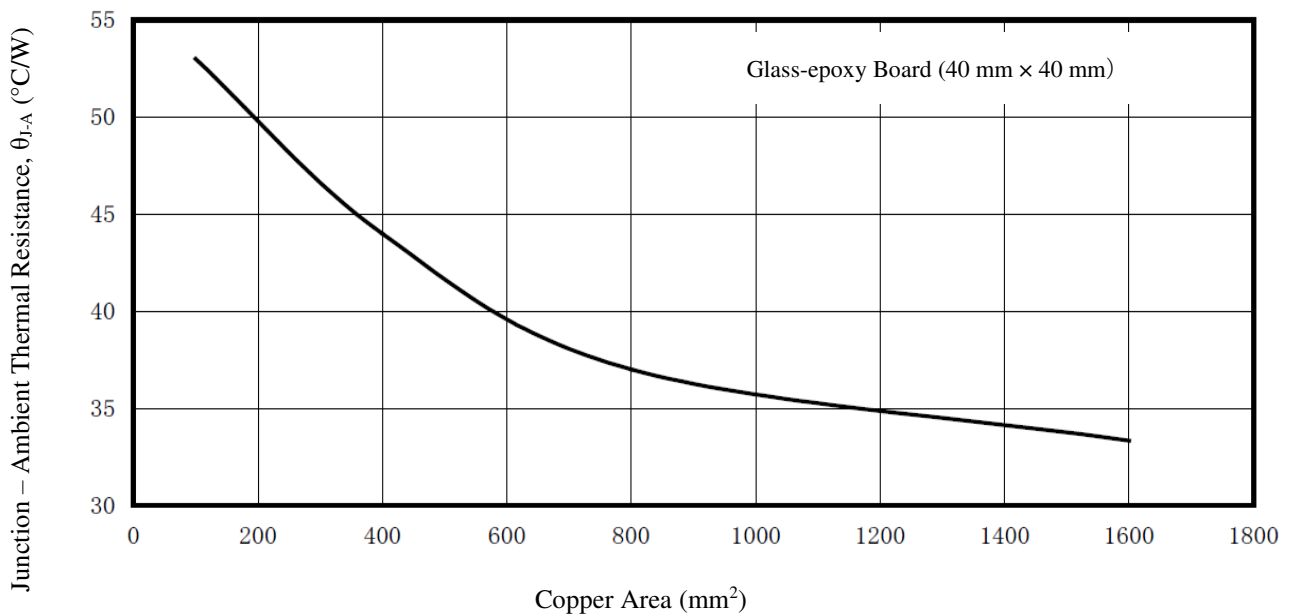

Figure13-3 Thermal Resistance – Copper Area Reference Characteristics (Single-sided Copper Foil Board, FR-4)
Figure13-3 shows the derating of the IC. When using the IC, ensure a sufficient margin.
- (3) Determine the copper area by confirming the intersection of ambient temperature and power dissipation by the thermal derating characteristics shown in Figure13-3.
For reference, Figure13-3 shows the relationship between the copper area and thermal resistance of a single-sided copper foil board, FR-4.